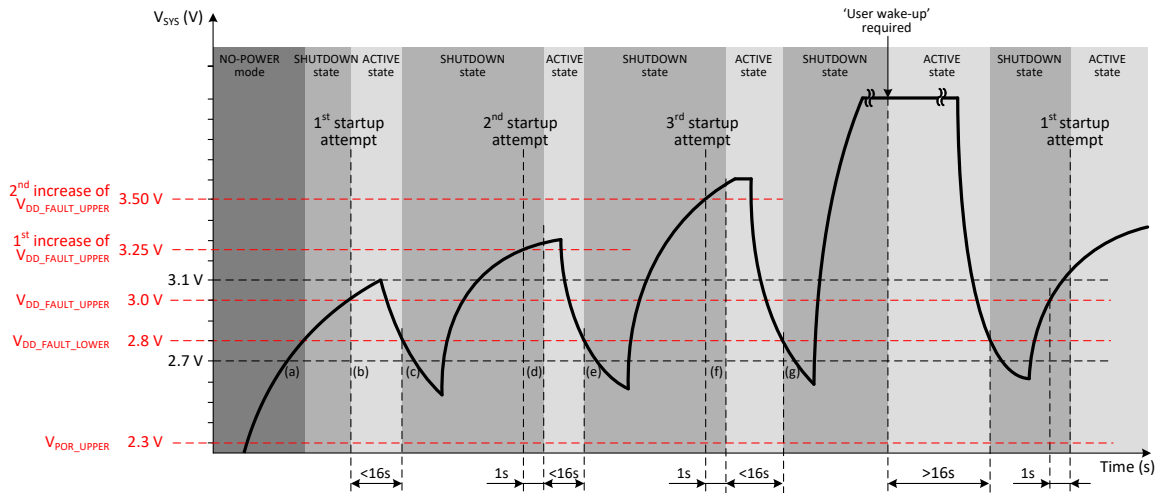

Figure 14: VDD_START Faults
The DA9063 VDD_START feature prevents endless looping of false starts in a weakly-powered system. VDD_START limits the number of automatic restart attempts to three. With reference to Figure 14:
- Figure 14(a): The PMIC starts from NO-POWER mode.
- Figure 14(b): First startup attempt. The PMIC transitions to the ACTIVE state when V_{sys} rises above V_{DD_FAULT_UPPER}.
- Figure 14(c): If, during the first startup attempt, the V_{sys} supply drops below V_{DD_FAULT_LOWER} for more than 100 ms, the PMIC shuts down to the SHUTDOWN state. V_{DD_FAULT_UPPER} is increased automatically by 250 mV. However, the increased V_{DD_FAULT_UPPER} is limited to a maximum of 3.70 V.
- Figure 14(d): Second startup attempt. If V_{sys} rises above the new V_{DD_FAULT_UPPER} threshold, then the PMIC will power-up to the ACTIVE state.
- Figure 14(e): If, during the second startup attempt, the V_{sys} supply drops below V_{DD_FAULT_LOWER} for more than 100 ms, the PMIC shuts down to the SHUTDOWN state. V_{DD_FAULT_UPPER} is increased automatically by a further 250 mV (500 mV above its original setting). However, the increased V_{DD_FAULT_UPPER} is limited to a maximum of 3.70 V.
- Figure 14(f): Third startup attempt. If V_{sys} rises above the new V_{DD_FAULT_UPPER} threshold, then the PMIC will power-up to the ACTIVE state.
- **Figure 14(g):** If, during the third startup attempt, the V_{SYS} supply drops below $V_{DD_FAULT_LOWER}$ for more than 100 ms, the PMIC shuts down. From then on, `AUTO_BOOT` and wake-up from non-user events are temporarily disabled. 'User events' are defined in Table 40.